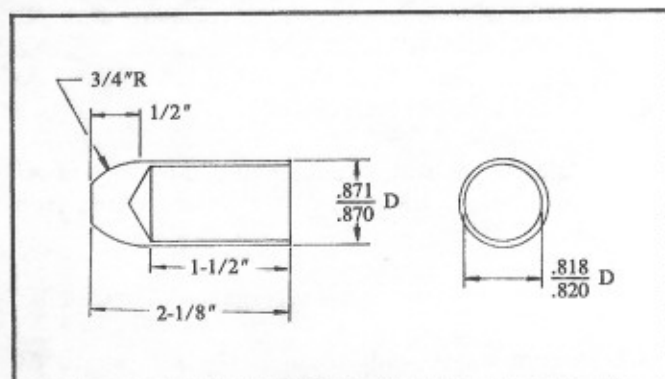

Figure 38
6.1 Set a protective cover over slip rings (See Fig. 38 for dimensions) to avoid damaging the oil seals during assembly.